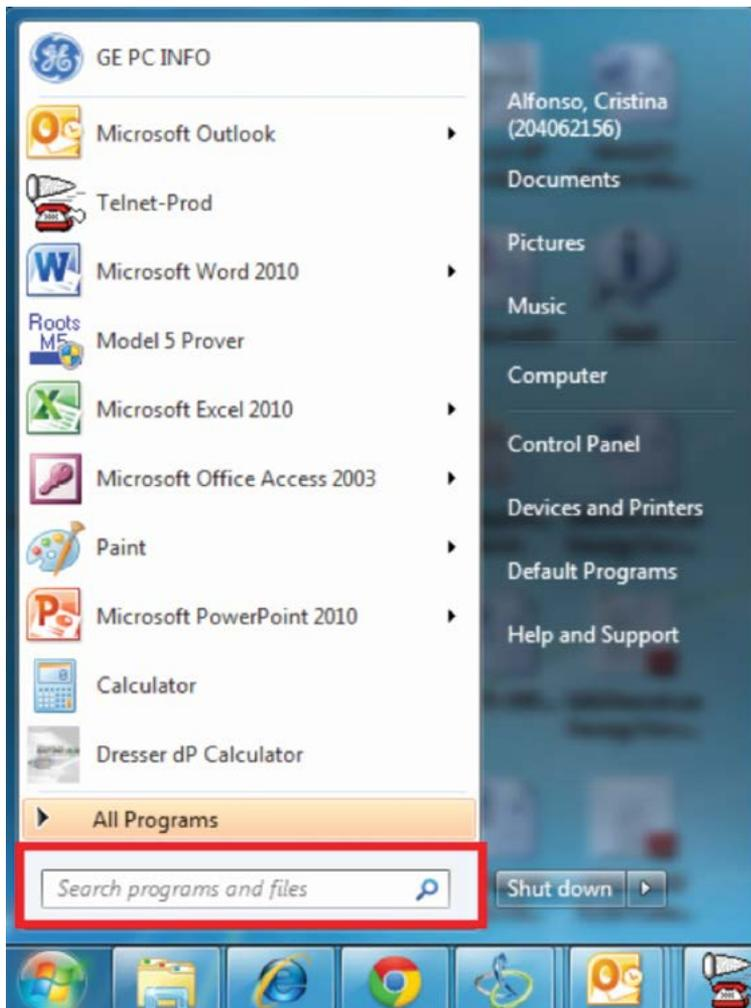

Figure 52: Search Bar in Start Ribbon
2. Open the Device Manager. On Windows 7 platforms, this is most easily accomplished by typing in “Device Manager” in the search bar at the Start Ribbon as shown in **Figure 52**. Please see a local IT representative for issues locating the Device Manager.